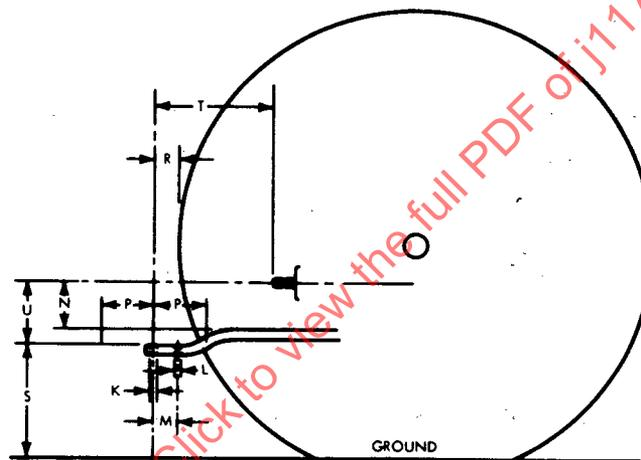

FIG. 5—TRACTOR POWER TAKE-OFF AND DRAWBAR (SEE TABLE 2)
2.2 Dimensions associated with the drawbar and operating dimensions shall conform to Fig. 5 and Table 2.
TABLE 2—DIMENSIONS ASSOCIATED WITH DRAWBAR AND POWER TAKE-OFF* (SEE FIG. 5)